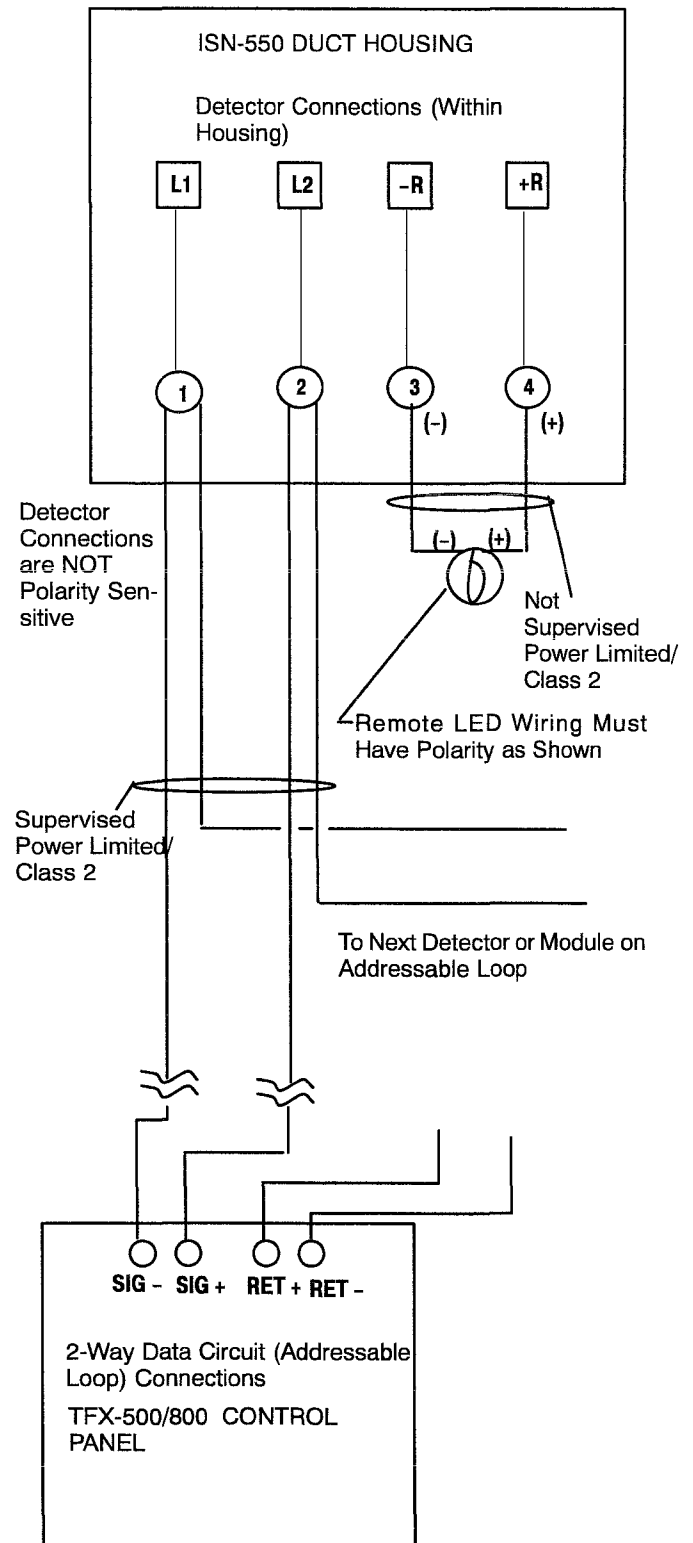

Figure 5: System Wiring Diagram.
4. Wire the detector according to the engineering drawings for this installation. (See Figure 5.)